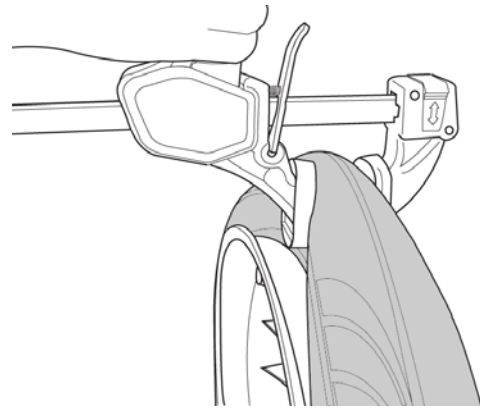

Figure 4-6: Break Tire Bead
4. Using a bar clamp, break tire bead by positioning clamp jaws against inner and outer sidewall of tire and tightening clamp. Continue to break tire bead in this manner, shifting clamp over 6" each time. (Figure 4-6).